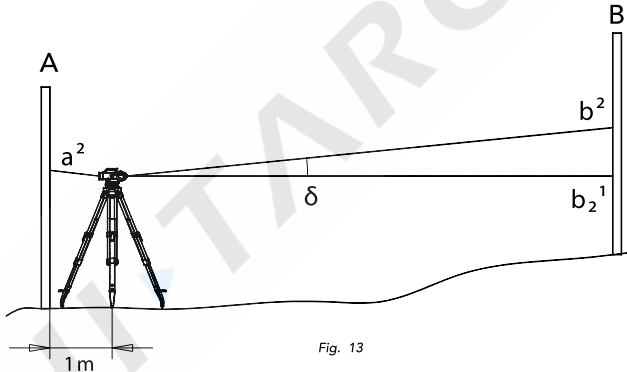

Fig. 13
- Set up the instrument about 1 m away from point A. Then read staff A and staff B as "a2" and "b2" (fig. 13).